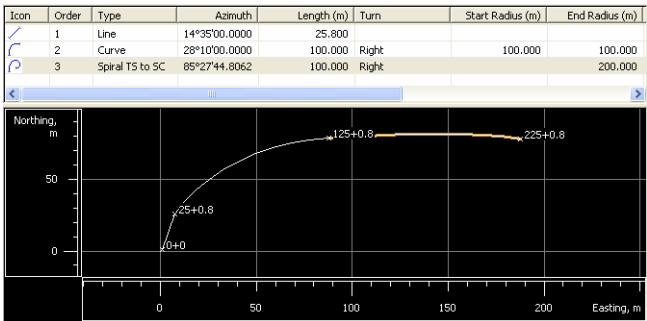

Figure 9-42. Table and Graph Pane for the Created Spiral
4. Click **OK** to create (or add) the spiral. The Table and Graphic pane of the right panel of the *Road* tab display the created spiral (Figure 9-42 on page 9-25).